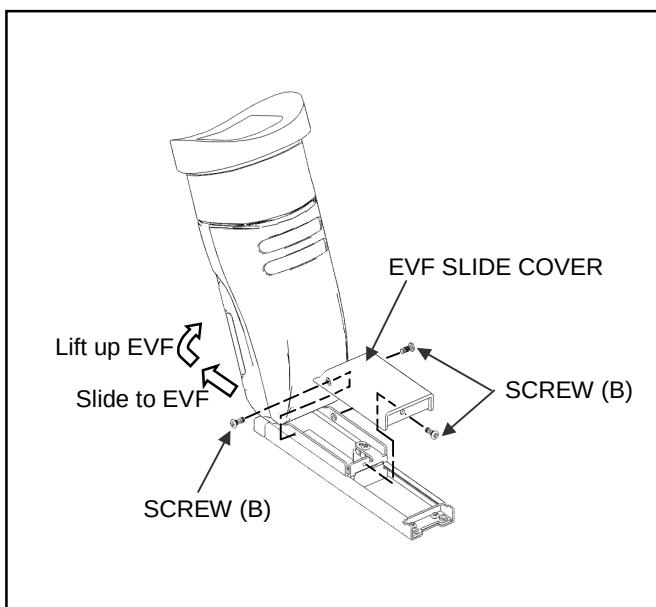

Figure 13-3
6. Unscrew the 3 screws (B) and remove the EVF SLIDE COVER as shown in figure 13-3.